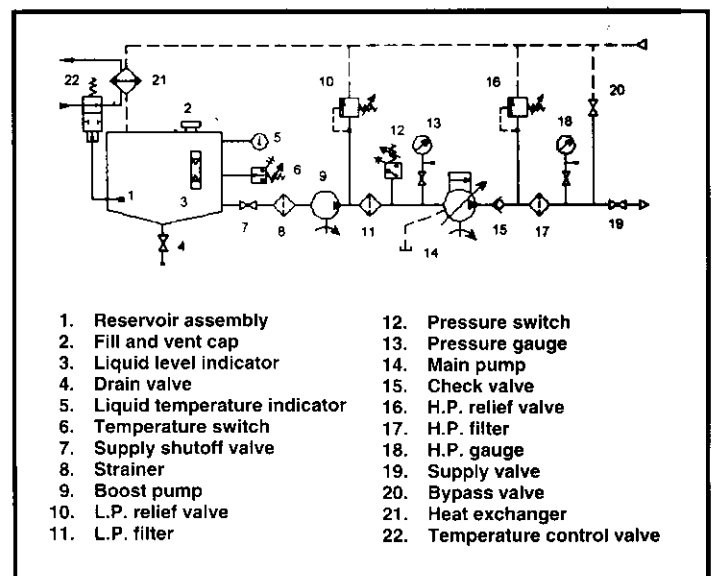

Figure 2. Power Supply Circuit
The power supply unit is shown in schematic diagram in Figure 2 and consists of the basic components listed. All reservoirs are made of stainless steel and are equipped with baffles, access plates for cleaning, site gauge, fill and vent caps. Vents contain micronic filters and fill caps contain strainers. The hydraulic power supply system is designed as a unit mounted on its own base and installed in the console under the working sump. The main pumps are axial, piston types with guaranteed delivery capabilities of 5,000 PSI for a minimum of 1,000 hours. The variable volume and compensator controls of the main pressure pump are mounted on the valve panel at the front where they are readily accessible to the operator. The pump is integrally mounted on the face of the motor with the shafts precisely aligned and operated through a flexible coupling. Boost pumps are utilized to extend the life of the main pump, and to deliver operating oil to the main pump, thus eliminating possible cavitation.
The HIS Series Test Machines are as shown in Figure 3. This system consists of the power supply unit as described in Figure 2, a control system, and an instrumentation system.
- A Power supply referred to and described in Figure 2.